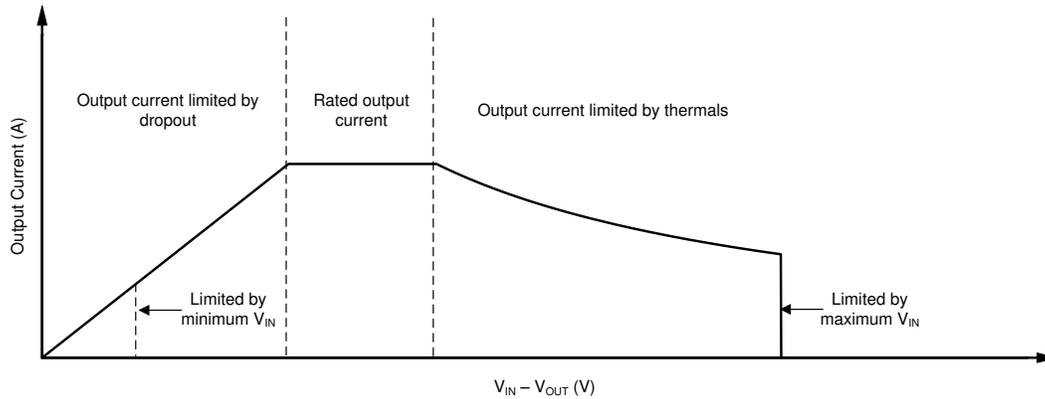

图 8-3. Region Description of Continuous Operation Regime
The operational area of an LDO is limited by the dropout voltage, output current, junction temperature, and input voltage. The recommended area for continuous operation for a linear regulator is given in 图 8-3 and can be separated into the following parts:
- The shape of the slope is depicted in the third region of Figure 8-3. The slope is nonlinear because the maximum-rated junction temperature of the LDO is controlled by the power dissipation across the LDO. Thus, when $V_{IN} - V_{OUT}$ increases the output current must decrease.
图 8-3 shows the recommended area of operation for this device on a JEDEC-standard high-K board with a $R_{\theta JA}$, as given in the *Thermal Information* table.